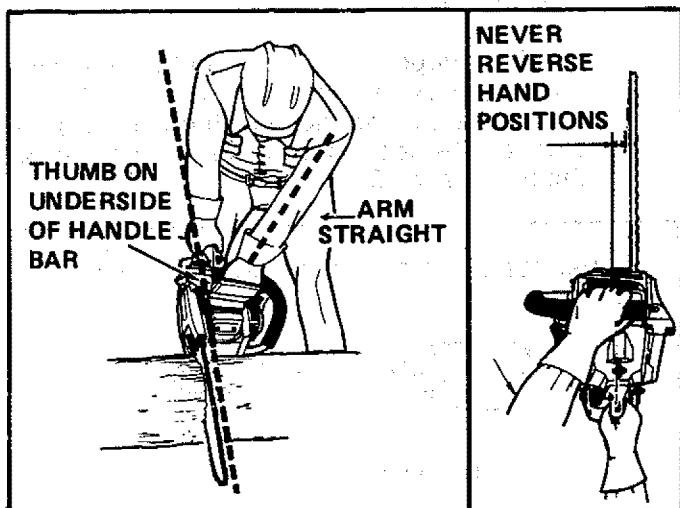

Figure 17
- Keep a good firm grip on the saw with both hands. Figure 17. A firm grip can neutralize kickback and help you maintain control of the saw. Keep the fingers of your left hand encircling and your left thumb under the front handlebar. Keep your right hand completely around the rear handle *whether you are right handed or left handed*. Keep your left arm straight with the elbow locked.
- Position your left hand on the front handlebar so it is in a straight line with your right hand on the rear handle. Figure 17. Never reverse right and left hand position.
- Stand slightly to the left side of the saw, to keep your body from being in a direct line with the cutting chain. Figure 17.